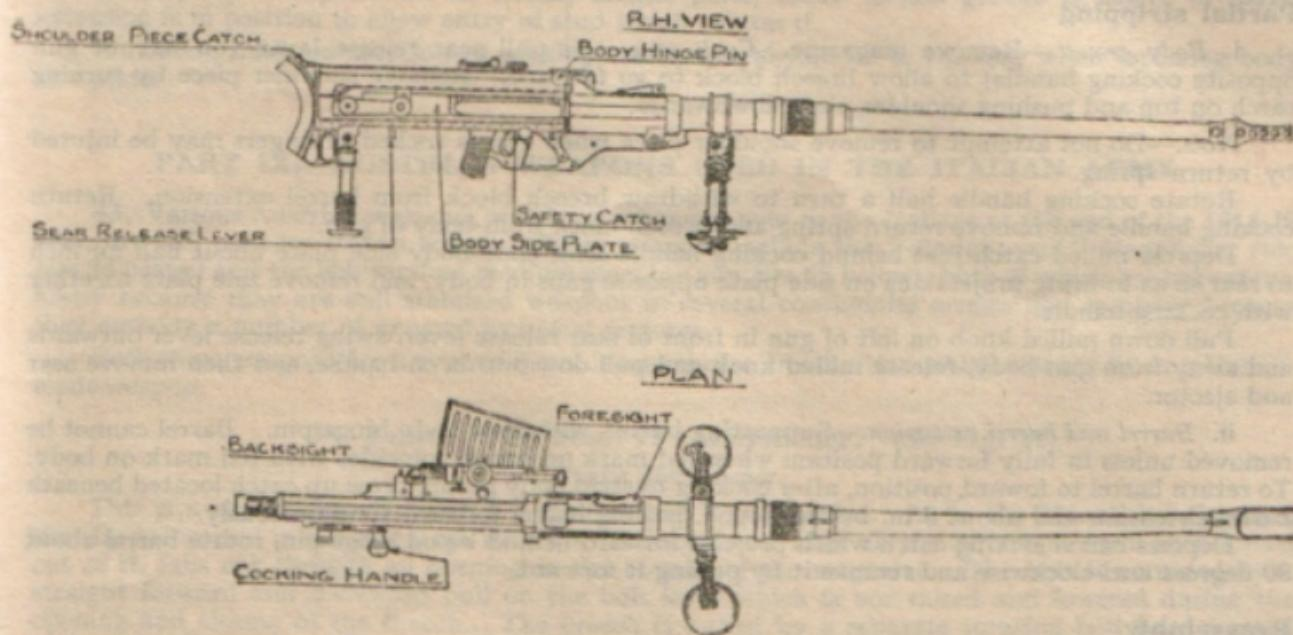

FIG. 20.—20 MM. A/Tk. RIFLE—SOLOTHURN
32. 20 mm. A.Tk. Rifle—Solothurn. (See Fig. 20)